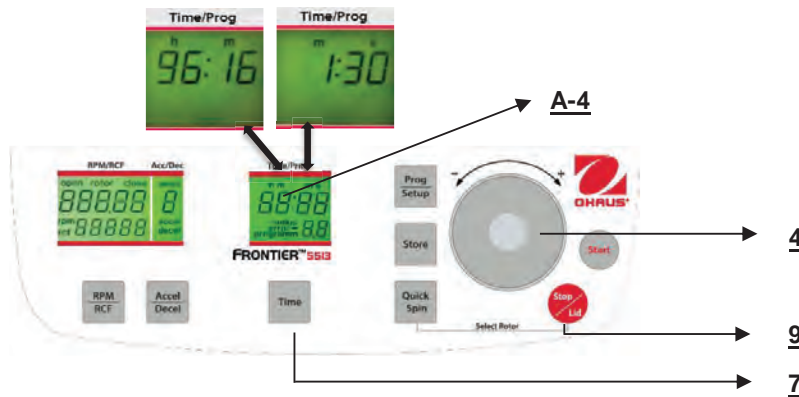

Figure. 17
3. The continuous run **"cont"**, which can be interrupted by the key **"Stop/Lid"** (9) (refer to figure 17).
The display always shows the remaining running time. (See figure 17)